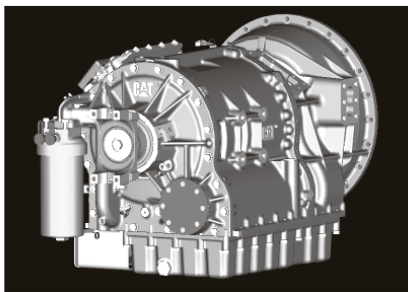

Fig. 1
2. Remove the P.T.O. rear aperture plate with an 18 mm socket. (Fig. 1)